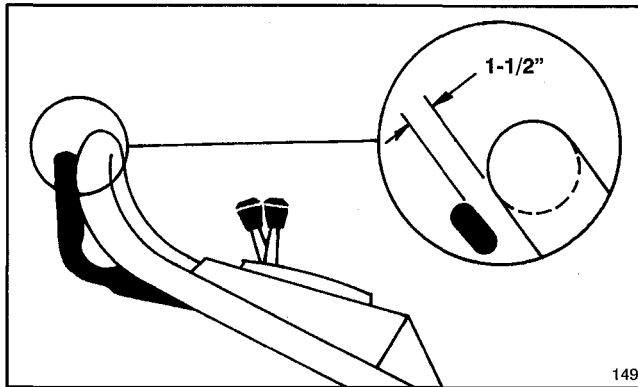

Figure 23
3. **CHECK ADJUSTMENT**—Slowly pull mower backward while control bar is gradually moved toward handle. Adjustment is correct when rear wheels stop turning and control is about 1-1/2 inches from handle (Fig. 23).